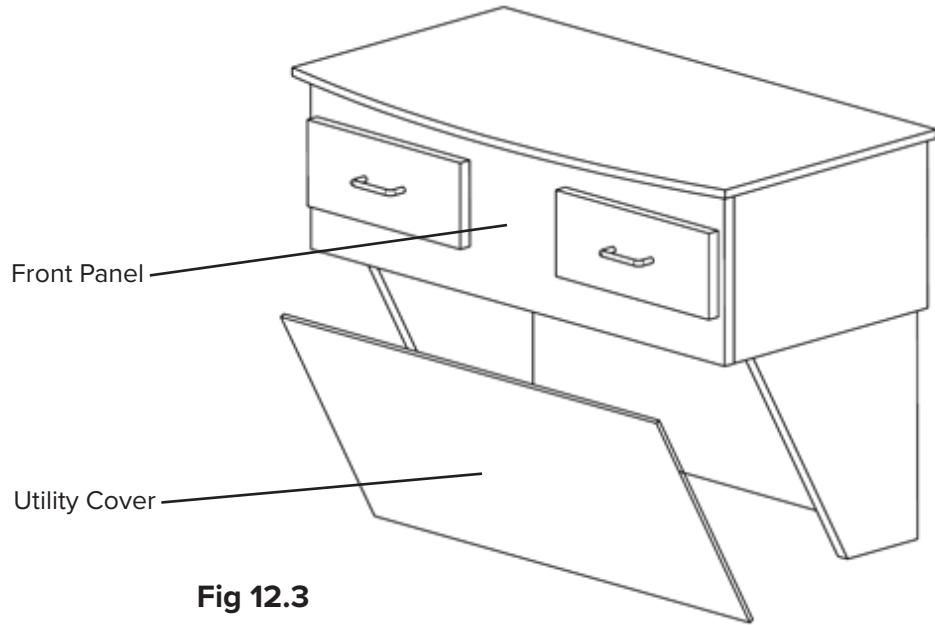

Fig 12.3
1. Remove the Utility Cover (Fig 12.3) to get access to the Hose Clamp that is attached to the back of the Workcenter front panel.